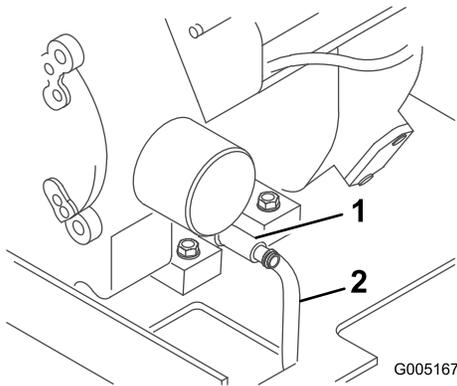

Figure 23
4. Place one end of a hose on the drain valve and the other end in a pan (Figure 23).
5. Open the drain valve by turning it counterclockwise, pulling out as you turn it (Figure 23).